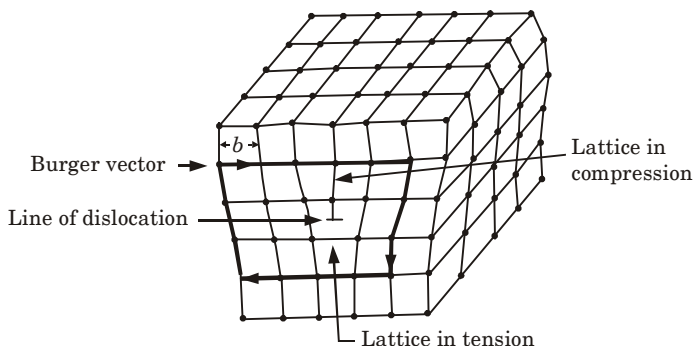

Fig. 4. Edge dislocation with burger vector.
2. (Fig. 4) shows the introduction of an extra half plane in a perfect crystal, resulting in an edge dislocation.